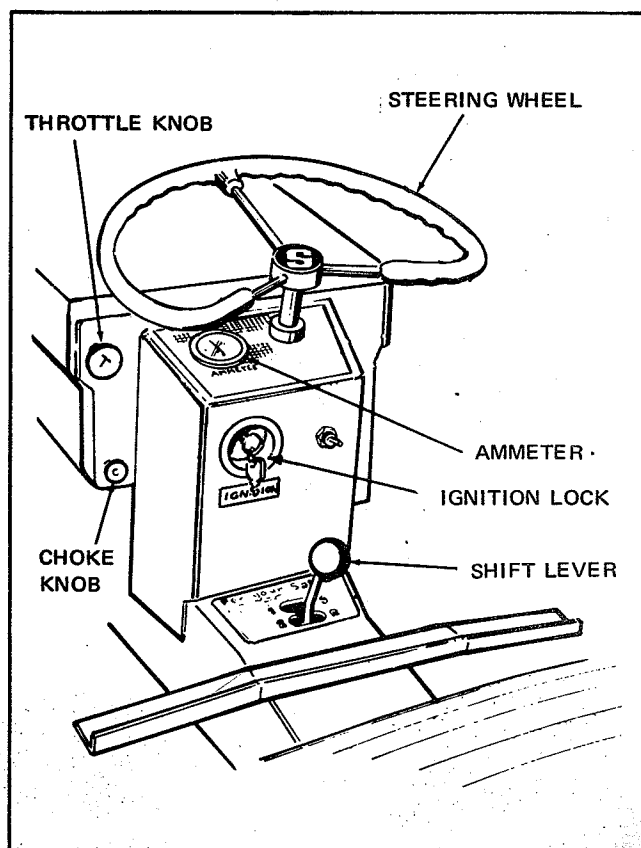
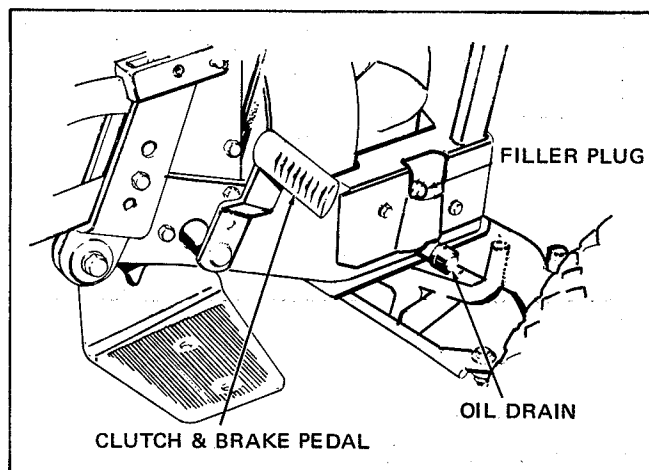

Figure 9
Figure 11
Service air cleaner and crankcase as recommended in Engine Service Manual. Be sure air cleaner is maintained in clean condition. Never use oil in crankcase for more than 25 hours of operation. See Figure 11. **CLEAN AIR AND CLEAN ENGINE OIL WILL GIVE LONG TROUBLE FREE OPERATION. DIRT WILL RUIN YOUR ENGINE IN A SHORT TIME.** A funnel and extension are included with the tractor for use in changing oil.
1. Place gear shift lever in **neutral** position. See Figure 9. (Be sure tractor is on **level ground** and will not roll away in neutral. Apply parking brake).
2. Pull choke knob out. See Figures 9 & 10.
3. Set throttle lever in mid position and turn ignition key clockwise to start engine and release. See Figure 9. As engine warms up, push choke knob in. Pull throttle knob out to desired position and turn to lock.
To place gear shift in desired gear range, depress the combination brake and clutch pedal located on right hand side of tractor. See Figure 11. When pedal is depressed, move shift lever to desired position (See Figure 9) and gradually release pedal until clutch is engaged. When shifting from one range to another, pause briefly in neutral before completing shift. Set throttle lever to obtain desired speed. See Figure 9.